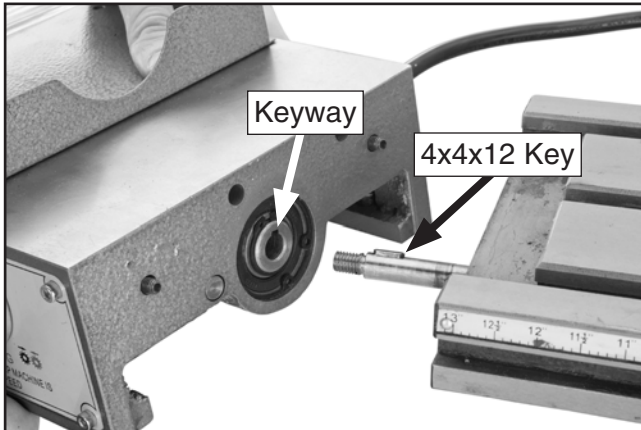

Figure 6. Installing power feed on table.
5. Insert the (2) M6-1 T-slot nuts into the table slot.
6. Replace the 4 x 4 x 12 key in the leadscrew, align the keyway and the key, as shown in **Figure 6**, and install the power feed on the table.